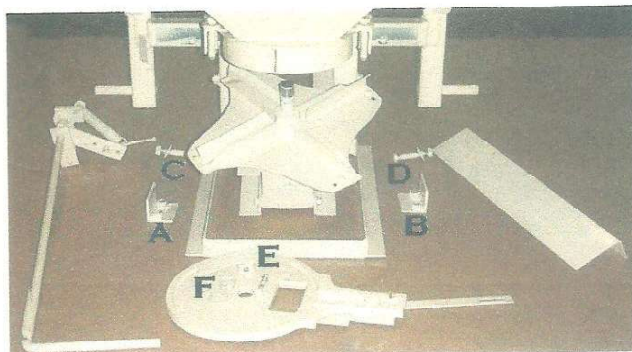

Figure 2
5. See Figure 2: Remove the two lower 3" bolts (C & D). Remove the two "L" plates (A & B) that secure base plate to bottom of hopper. Loosen two upper 3" bolts that run through "L" angles. Rock down the gearcase, base plate and fan. Remove agitator (E) 1" washer (F) spring and base plate.